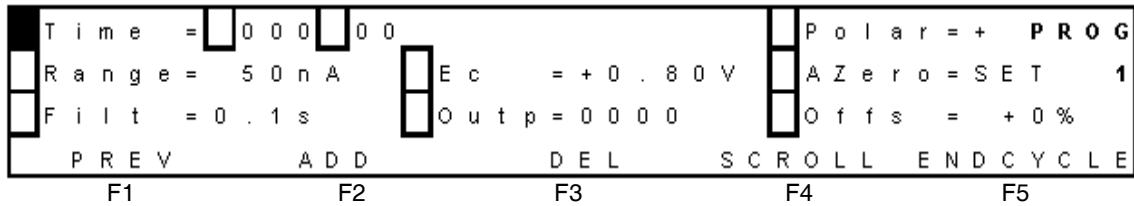

Figure 3-30 Prog Screen After Changing Line 1
d. Select **F2 YES**. The Prog screen appears (Figure 3-30).